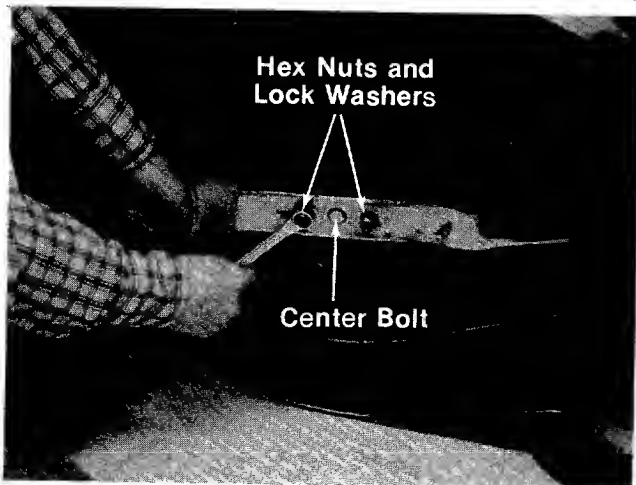

FIGURE 17.
To remove the cutting blade for sharpening or replacement, remove the two hex nuts and lock washers which hold the blade to the blade brake/clutch. See figure 17.
9. Tip the mower on its side. Remove the blade by removing two hex nuts and lock washers. Refer to figure 17.